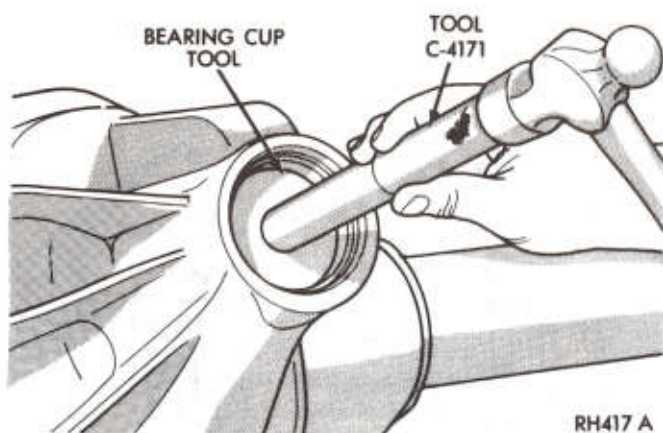

Fig. 35—Installing Outer Pinion Bearing Cup
(1) Using Tool C-4203 and Tool C-4171, drive the outer pinion bearing cup into the carrier (Fig. 35).